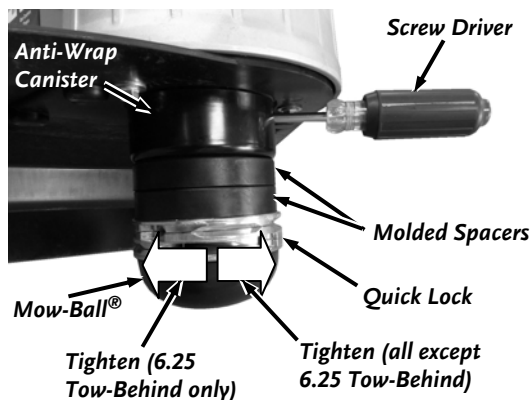

Figure 6
9. Looking down at the top of the Frame, hold the Bolt Head in place with your finger and turn the Mow-Ball® clockwise (6.25 Tow-Behind only) or counterclockwise (all except 6.25 Tow-Behind) to start the Bolt into the Shaft (Figure 6).